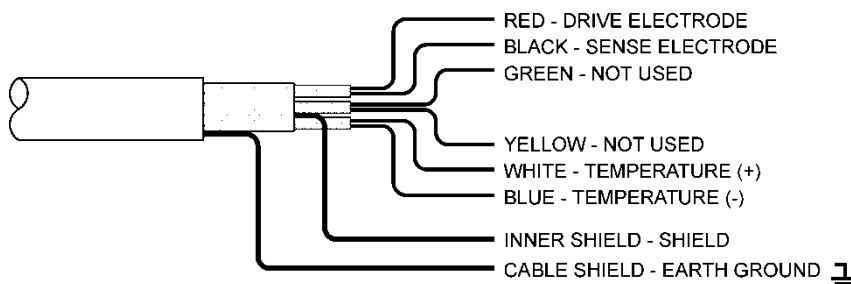
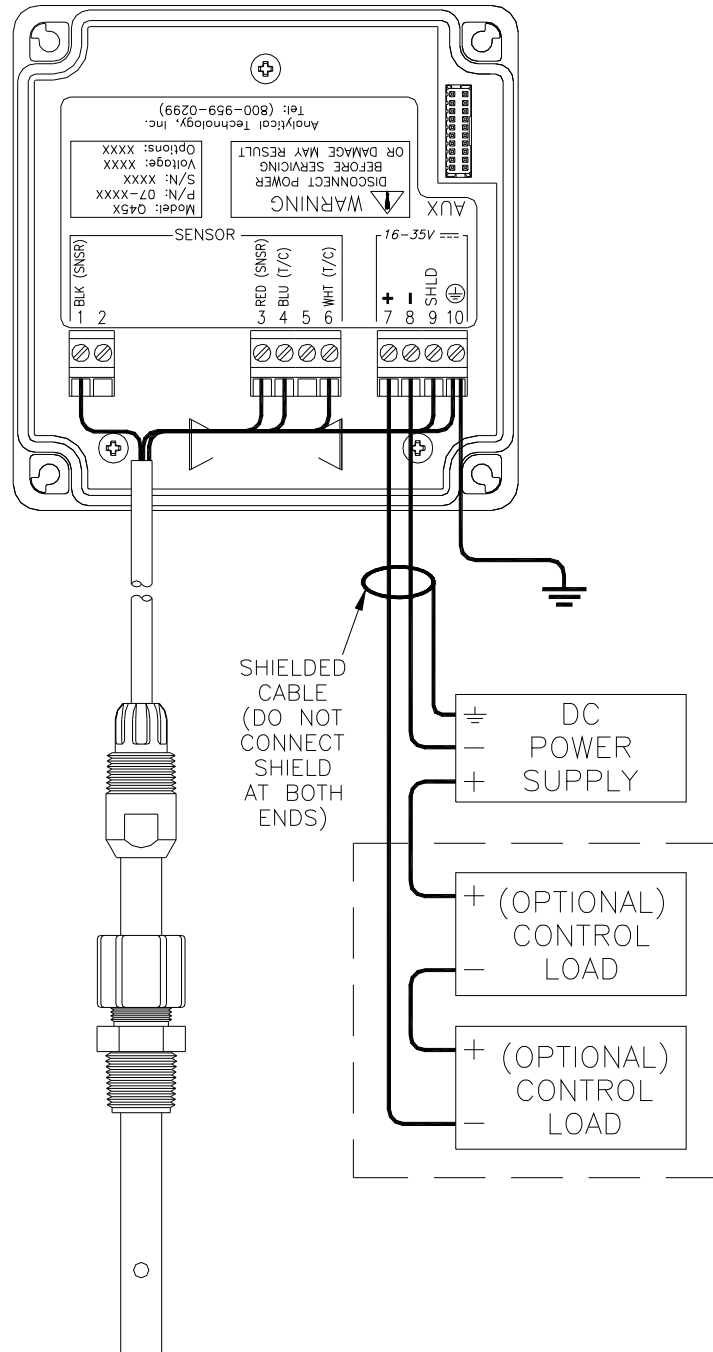

Figure 5 - Cable Description, Q25C2
Figure 6 - Loop Power Connection
1. Use wiring practices that conform to all national, state and local electrical codes. For proper safety as well as stable measuring performance, it is important that the earth ground connection be made to a solid ground point from terminal 12 (Figure 6 - Loop Power Connection).
In the two-wire configuration, a separate DC power supply must be used to power the instrument. The exact connection of this power supply is dependent on the control system into which the instrument will connect. See Figure 6 - Loop Power Connection
Refer to Figure 5 - Cable Description, Q25C2 and Figure 6 - Loop Power Connection for illustrative details on electrical installation.